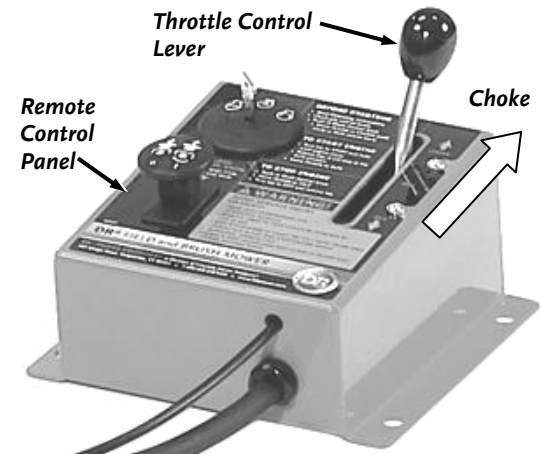

Figure 15
2. Move the Throttle Control to the Choke position on the Remote Control Panel (**Figure 15**).